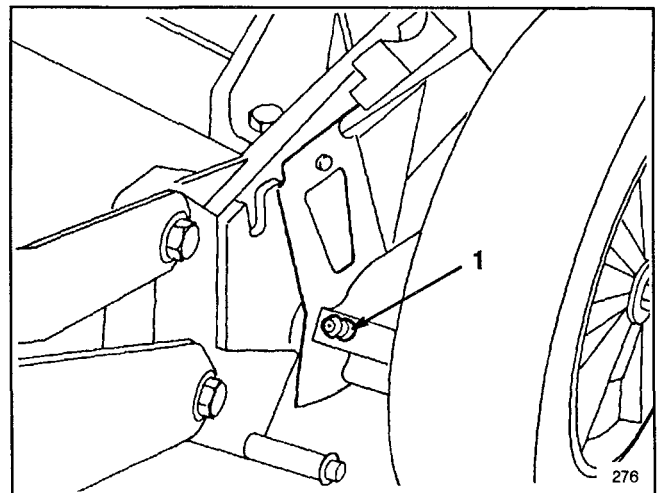

Figure 27
2. Move rear wheel height-of-cut levers to "C" setting. Wipe grease fittings with clean rag (Fig. 27). Install grease gun onto fitting and gently apply two or three pumps of #2 Multi-Purpose Lithium Base Grease.